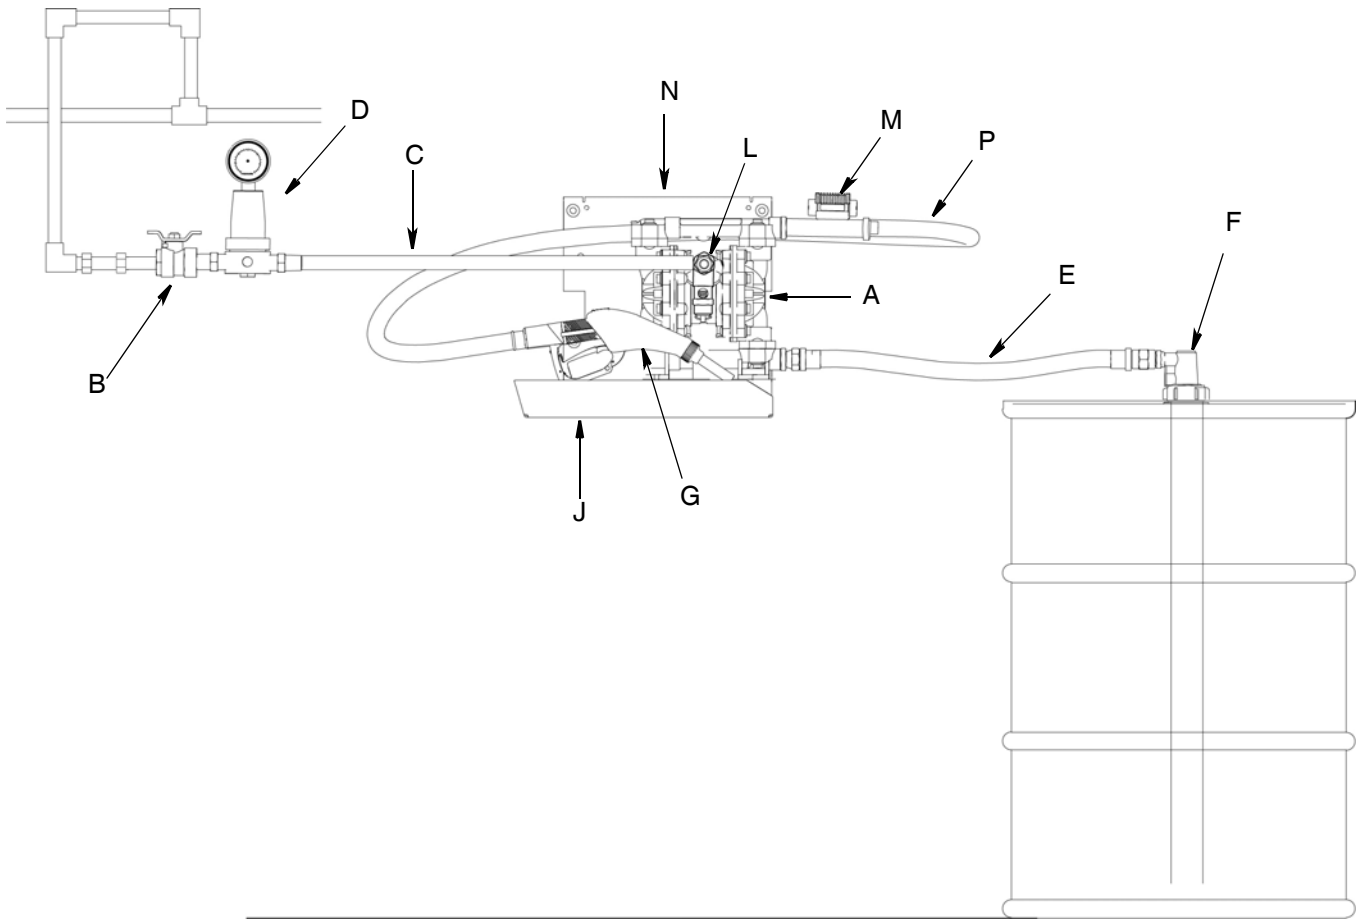
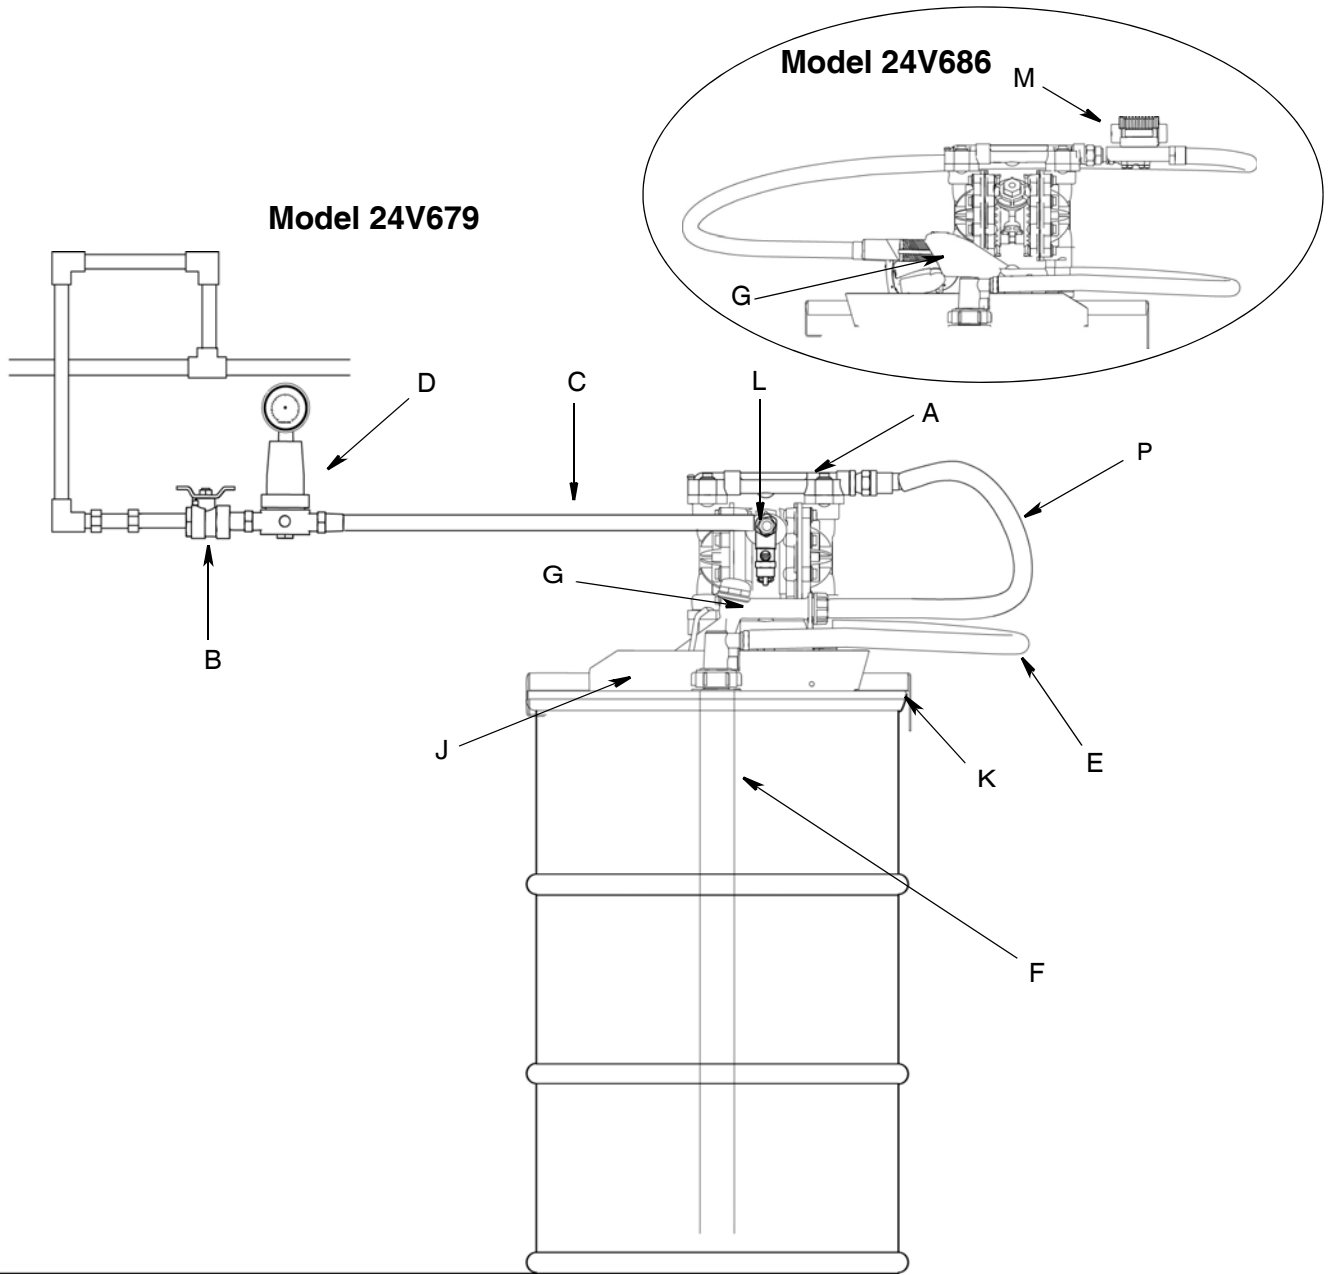

FIG. 1
FIG. 2
- The letters included in the following instructions refer to letters shown in Typical Installation examples (FIG. 1 - FIG. 2, pages 4 - 5). The numbers included in the following instruction refer to the Parts pages beginning on page 10.